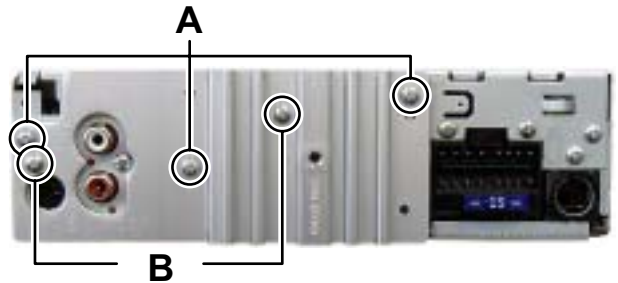

Fig.2
3.1.2 Removing the HEAT SINK (See Fig.2, 3)
- (1) Remove the three screws **A** and the two screws **B** attaching the HEAT SINK. (See Fig.2)